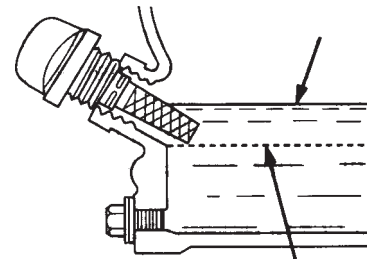

Figure 7 Engine Oil Dipstick (Oil Level)
4. If the oil level is low (Figure 7), fill to the edge of the oil filler hole with the recommended oil type (Table 4). Maximum oil capacity is 400 cc.